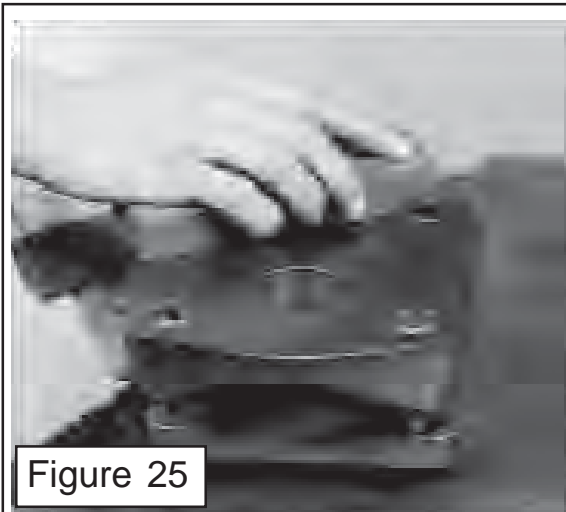

Figure 25
1. Check all the machined surfaces on all pump components to make certain they are level and free of scratches. Minor scratches and slight un-level conditions may be fixed by using a Medium Grit Carborundum Stone. This must be done equal all the way across the face of the machine surface to keep it level (figure 25). **ALL part must be cleaned and dried if stone is used it.** If deep scratches or excessively un-level the section will need to be replaced, so make certain this is checked before continuing installation of other components. Replace the parts with machined surfaces if required. Check components for wear or damage now before continuing.